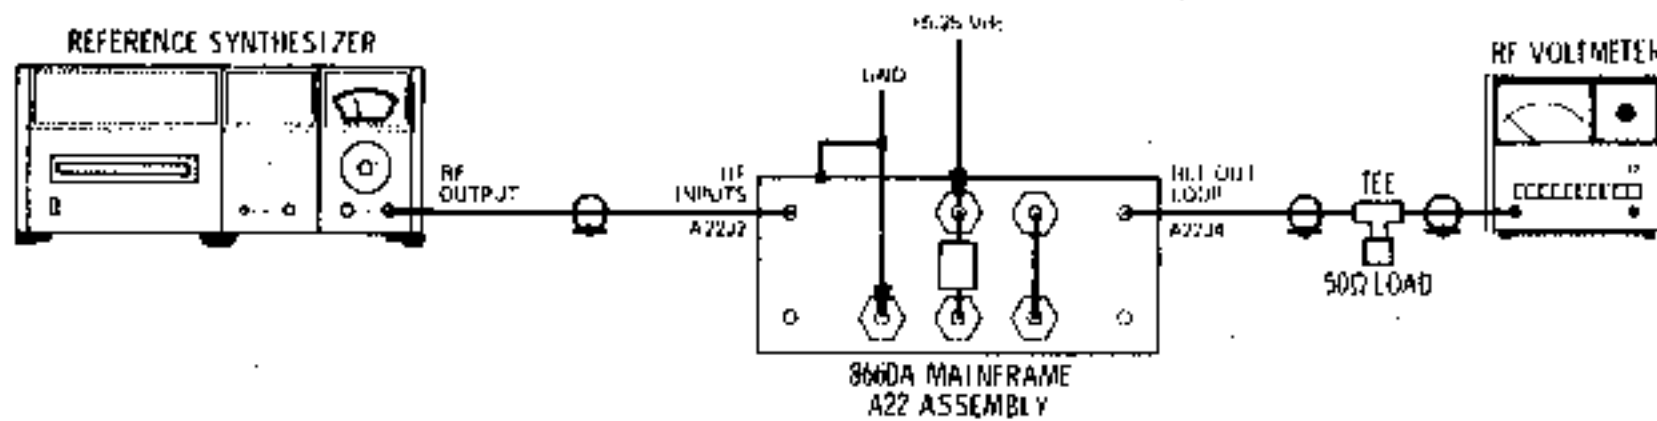

Figure 5-8. A22A1 Adjustment Test Setup (After Repair)
- a. Check the outputs listed in Table 5-4 for the levels shown (see Figure 5-8).
1. Connect equipment as shown in Figure 5-8. +5.25 Vdc must be connected to the junction of the inductor and feedthrough capacitor. The ground return must be connected to the chassis and feedthrough capacitor.